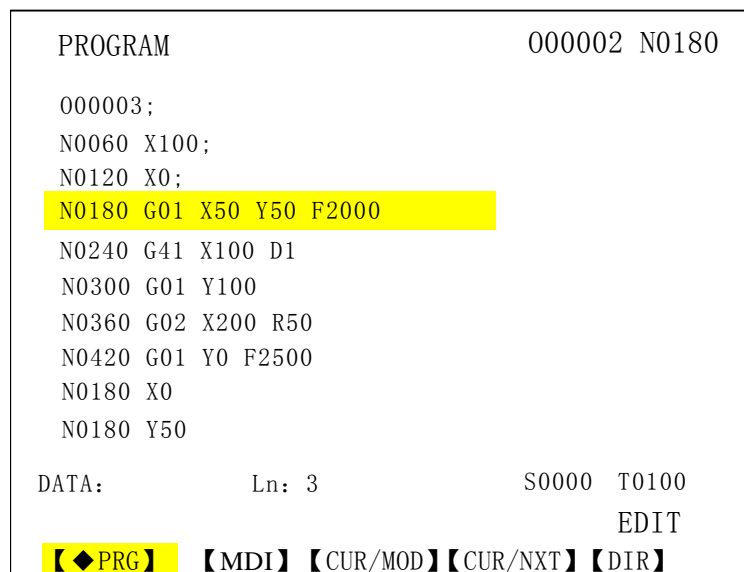

Fig. 10-1-2
2、 Press  key to enter program page (See Fig. 10-1-2);